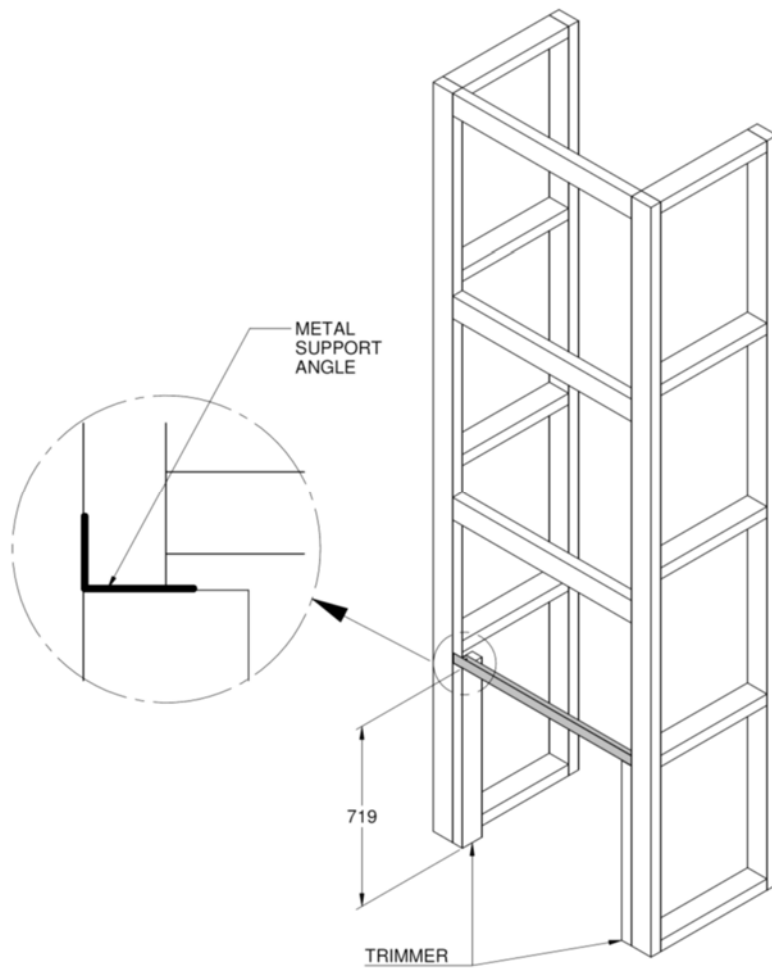

Fig. 3 Frame Structure
4. Frame up the **enclosure** using nominal 90 by 45 dressed timber, verifying that it will be on the flue centerline. (See Fig. 3). The overall depth of the frame should be $(587 - t)$ mm, where 't' is the cladding thickness. The distance between the trimmers (where the assembled shielding box will fit), should be 737mm. The overall width of the enclosure frame shown is the minimum required, but if desired it may be larger. The trimmers do not run the full height, but end 719 mm above the finished top face of the floor protector (or 719 mm above the top of the bearers if the heater is 'elevated'). Refer to paragraph 6 for floor protector thickness options and the advantage of 'elevated' installations. Fix the metal support angle across the tops of the trimmers to provide support and fixing for the front heat resistant cladding. (See Fig. 3).